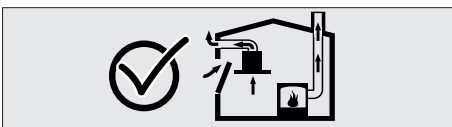

Fig. 3
- Therefore, adequate fresh air ingress must always be ensured. Fig. 3